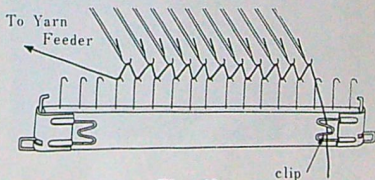

Fig. 11
- 2) Carefully unhook the comb from the pegs by turning the securing levers A of the cast-on comb and let the cast-on comb hang in the loops of yarn. (See Fig.11)
- 3) Turn the loose end of the yarn round the cast-on comb clip to keep it out of the way and to secure the first stitch. (See Fig. 11)